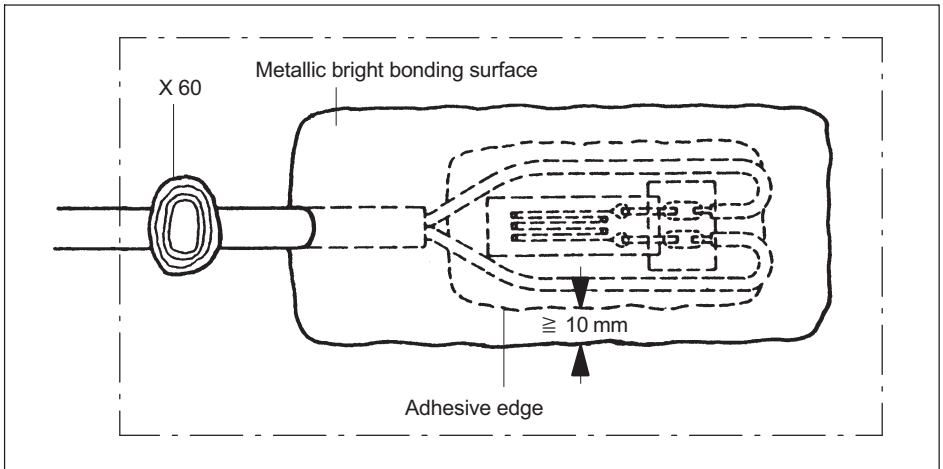

Fig. 4.1 SG measuring point covered with PU140
- ▶ The connection cable and the cable sheath in the area of the measuring point must also be degreased. Prepare the cabling of the measuring point as shown in *Fig. 4.1* on Page 5.